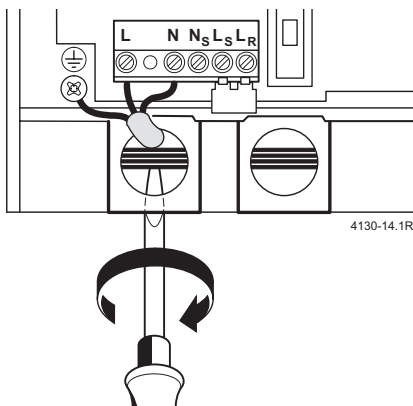

Fig. 27
- Feed cable through cable grommet and connect the mains supply cable, see Fig. 27.